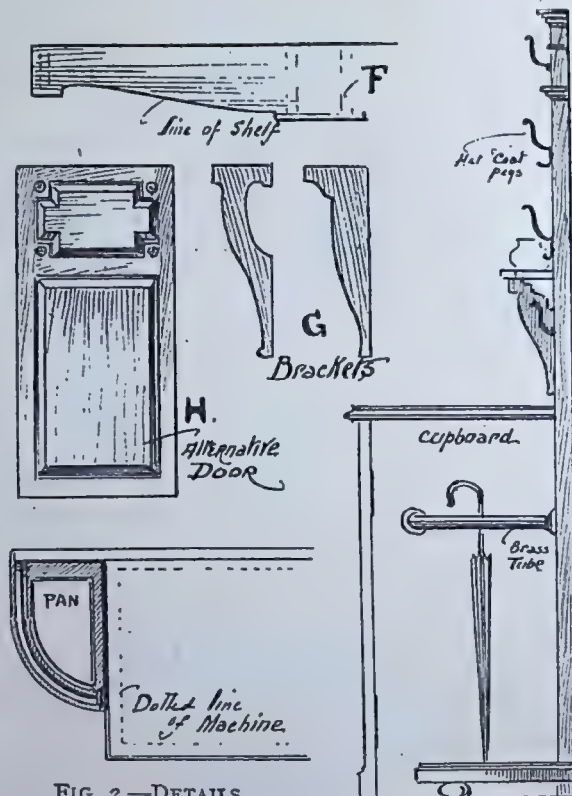

FIG. 2.—DETAILS.
An end elevation of the stand is sketched at Fig. 2, showing the cupboard as 19 ins. deep in the clear, with brass rail and drip pan supported on ball feet. The upper shelf and brackets, and fitting of hat and coat hooks are also indicated. The half plan shows the shaped brass rail and drip pan, with a dotted line indicating the sewing machine where contained in the cupboard. A suggested shaping for the shelf at F will be an improvement on a straight front edge, and the supporting brackets might also be shaped (G) to assist the effect. The doors also can be elaborated by fitting panels as indicated at H.